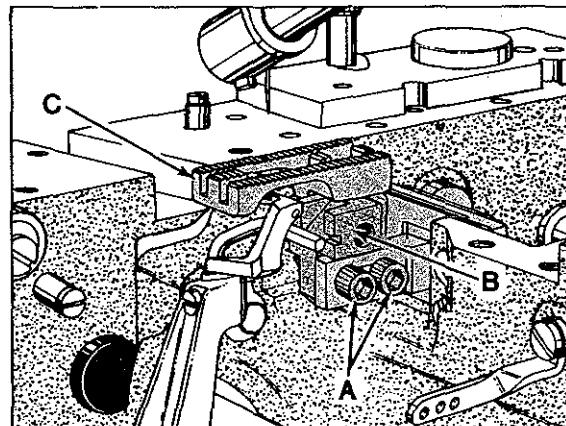
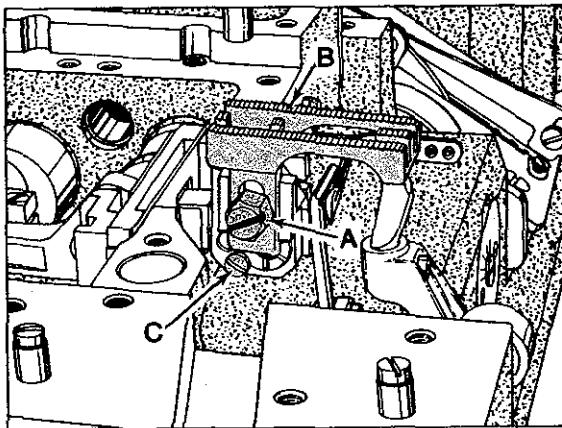
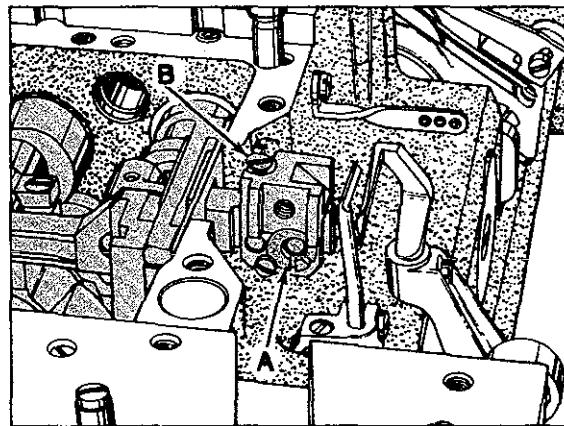

Fig. 13
Fig. 14
Fig. 15
Front to rear adjustments can be made by loosening two screws (A, Fig. 13), reposition feed dog holder (B) as required. Press down on front of feed dog (C) while tightening screws (A).
Parallel adjustment can be made by removing throat plate, loosen two screws (A, Fig. 13) and screw (A, Fig. 14) so feed dog (B) can be raised enough to loosen locking screw (C).
Turn feed dog tilting cam (A, Fig. 15) as required to level feed dog - check parallelism by positioning throat plate; retighten screw (C, Fig. 14) and screws (A, Fig. 13) while pressing down on front of feed dog.